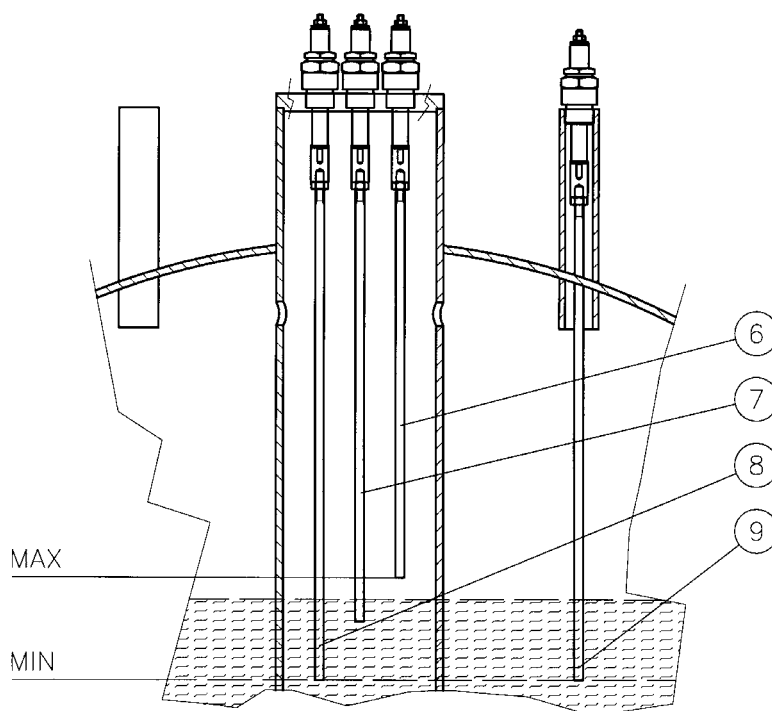

Fig. 7
2.2.2 Automatic level control (Fig. 7)